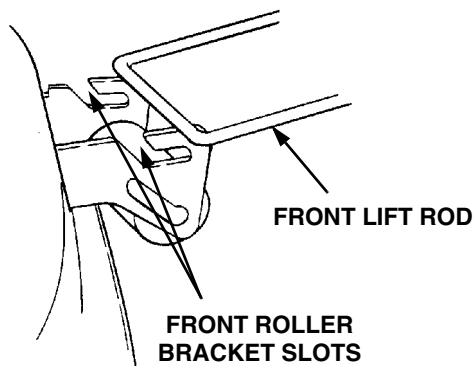

Figure 47
8. Raise the tractor implement lift handle to its highest setting. Roll the mower deck forward until the front lift rod slides up and out of the openings of both front roller bracket slots. Manually lift the rod out of the slots if necessary (Refer to Figure 47).
9. Raise the front lift rod upward and slide the mower deck rearward. Lower the front lift rod so it rests on the front roller bracket of the deck, forward of the slots (See Figure 47).